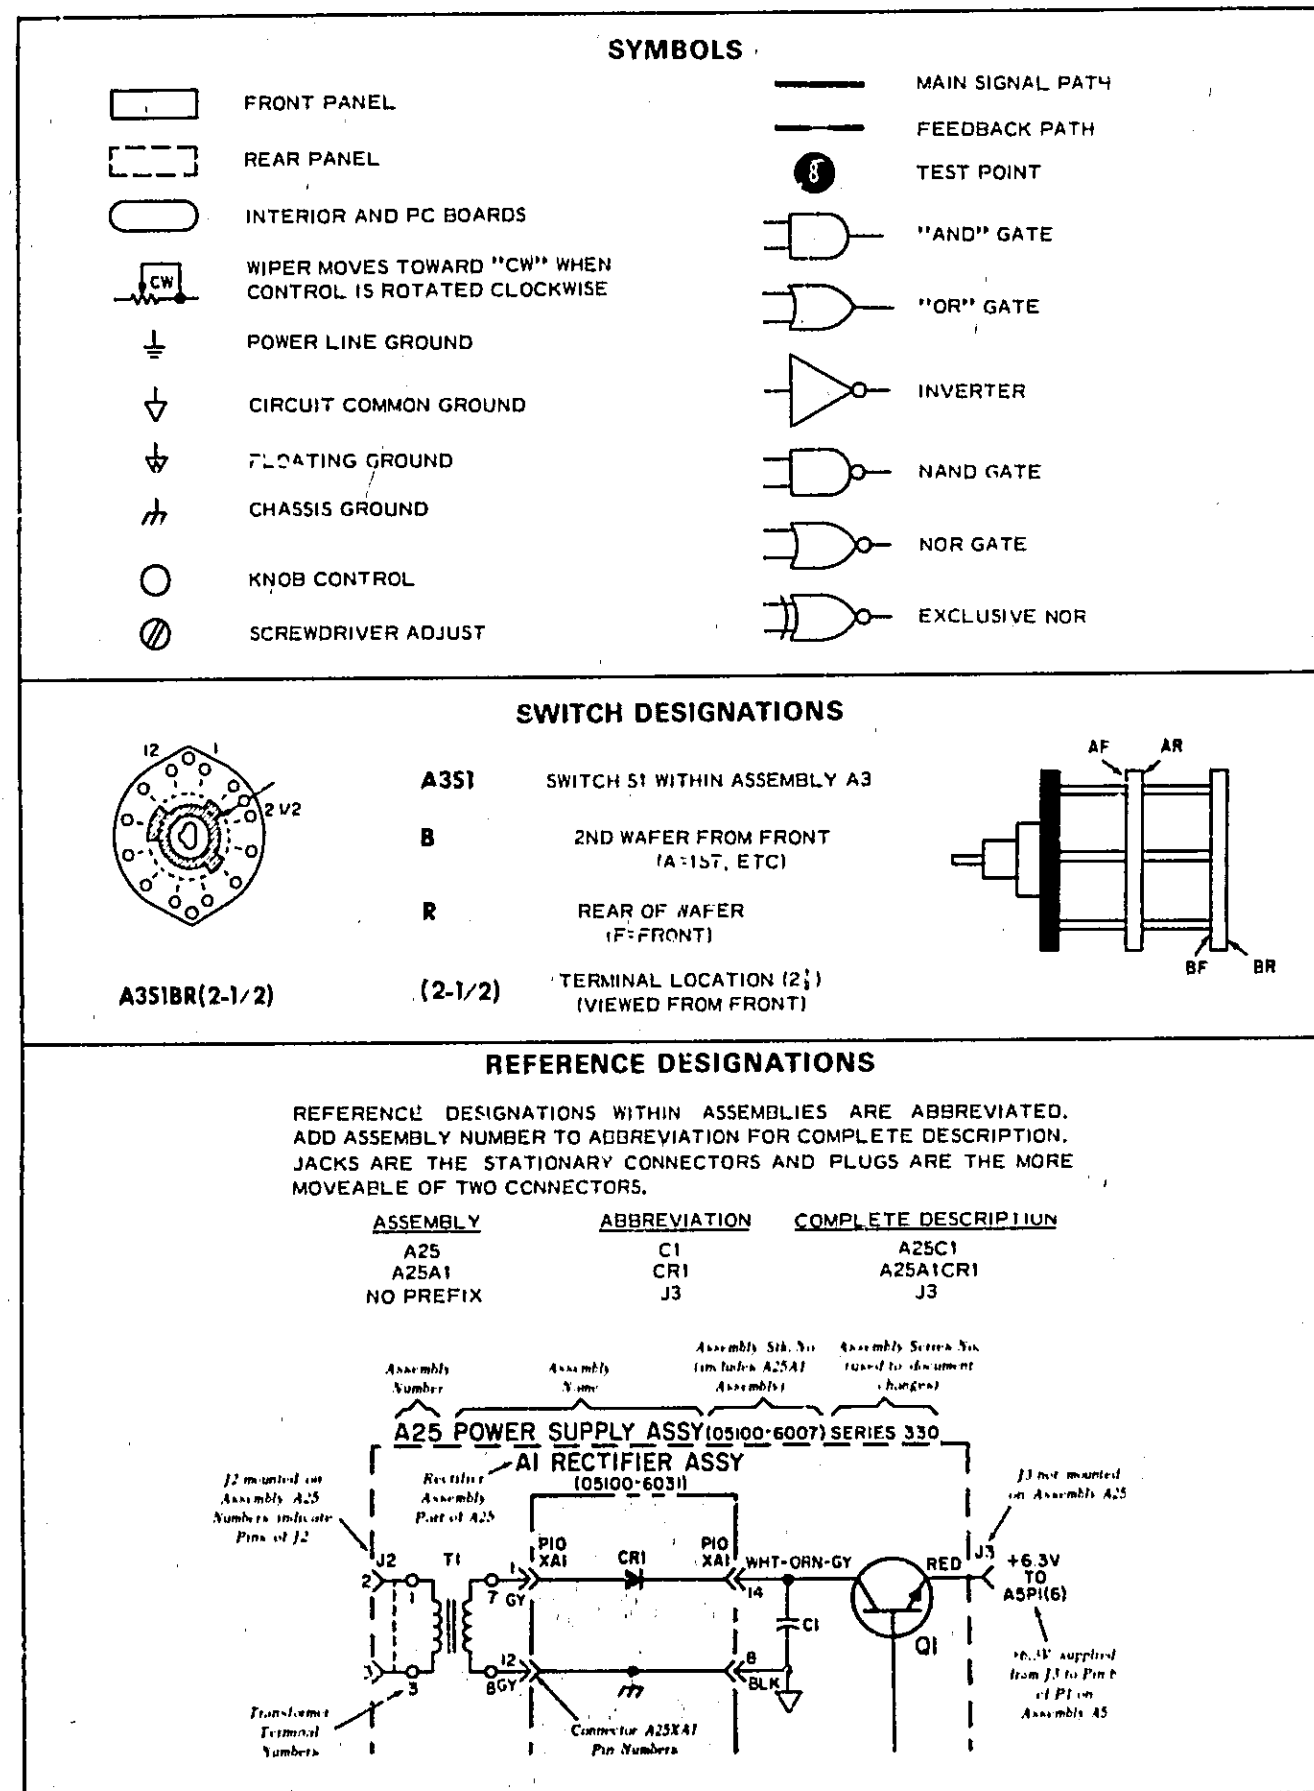

Figure 7-1. General Notes for Schematic Diagrams
- a. General Notes for Schematic Diagrams (Figure 7-1).